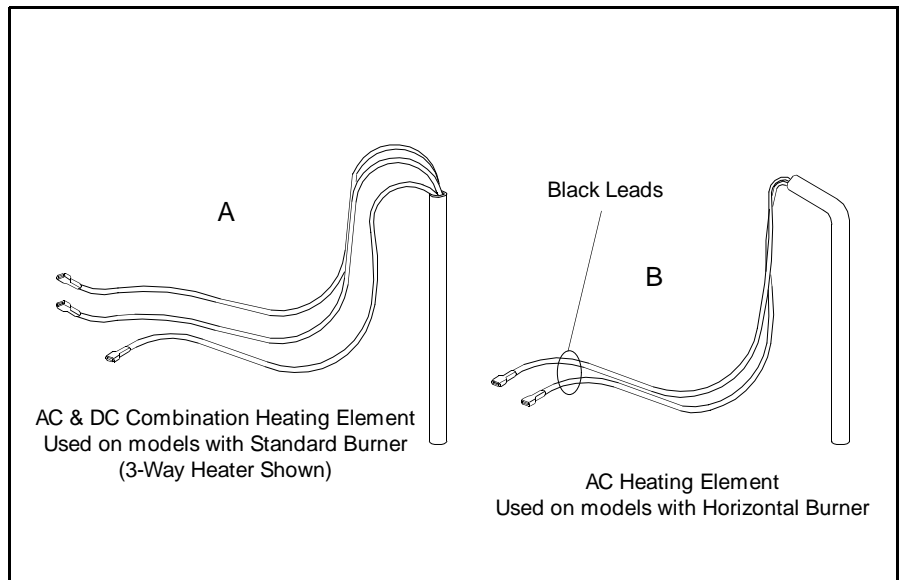

Figure 4.19 Illustration of Heater Types
Applies specific amount of heat to the cooling unit. The heater wattage rating and operating Voltage is important for proper cooling. Figure 4.19 illustrates (A) the type used with the earlier Standard Burner and (B) the current Horizontal Burner.